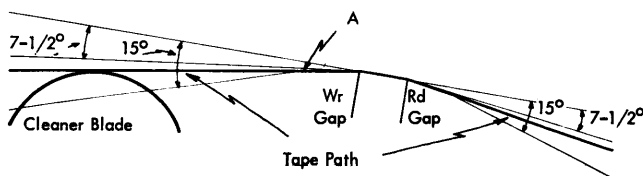

Figure 30. Tape Cleaner Wrap Angle
3. Unload the tape unit and observe the head; the powder will be wiped off the head where the tape has contacted the surface. Visual inspection should show that the apex at point A (Figure 30) has been wiped completely clean, indicating a tape approach of just over  $7^\circ$ .